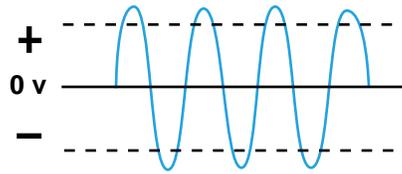
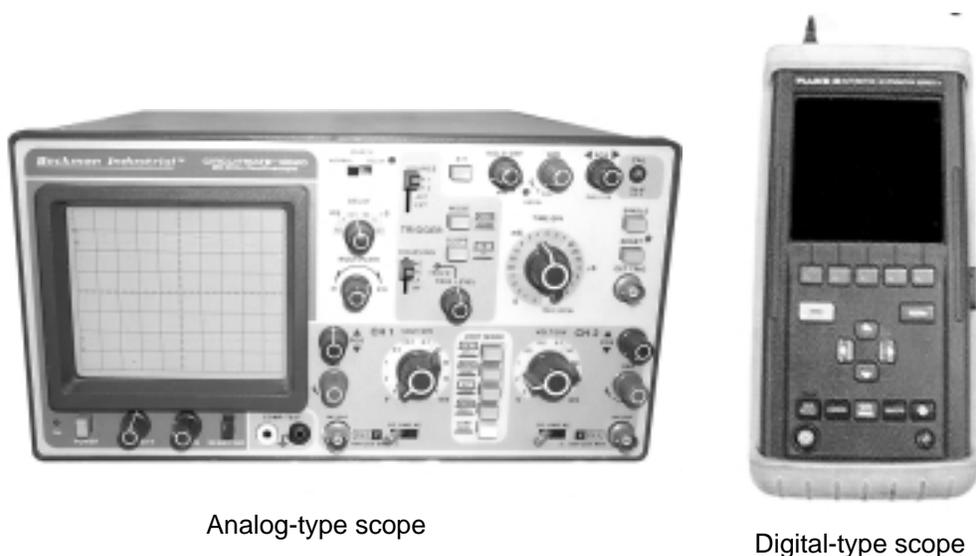

Figure 9-13 Typical ac sine wave voltage signal produced by a pickup coil speed sensor.
Figure 9-19 An oscilloscope is the best tool for analyzing a speed sensor signal.
Speed sensors for antilock brake systems are voltage-generating sensors called **pickup coil sensors**, **reluctance sensors**, and **permanent magnet (PM) generators**. All work as did the earliest pickup coils in electronic distributors. As a toothed reluctor ring rotates past the stationary sensor, it produces a voltage frequency and intensity directly proportional to wheel speed. As the teeth of a rotating trigger wheel pass by the magnet, the magnetic field expands and collapses to generate an ac voltage in the coil (Figure 9-13). This signal is sent to the electronic module, which processes it to determine rotational speed.
A variation in speed signal frequency or a speed difference between the wheels is the normal trigger for antilock operation. An uneven or erratic frequency signal also can trigger a system trouble code. A normal speed sensor signal should be a repeatable ac voltage as shown in Figure 9-13, with the frequency varying smoothly with wheel speed. A missing signal, a low-amplitude signal, or an erratic frequency signal can cause a system trouble code.
Sensor Voltage Waveform Testing. The best way to test and evaluate the signal voltage from an ABS speed sensor is to view the signal waveform with an oscilloscope (Figure 9-19). Disconnect the sensor harness from the vehicle wiring harness and connect the oscilloscope or graphing meter leads across the two terminals of the sensor harness. Then rotate the wheel by hand or by using the vehicle power train, as appropriate. A good sensor signal should be continuously similar to the waveform shown in Figure 9-13.